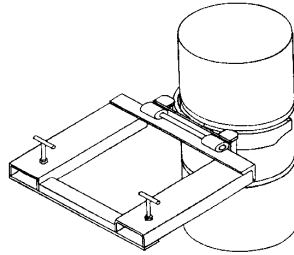

Figure 3
8. When jaws surround drum, raise forks until jaws rest under upper rolling rib. Drum can now be raised and moved where desired. (Fig.3)